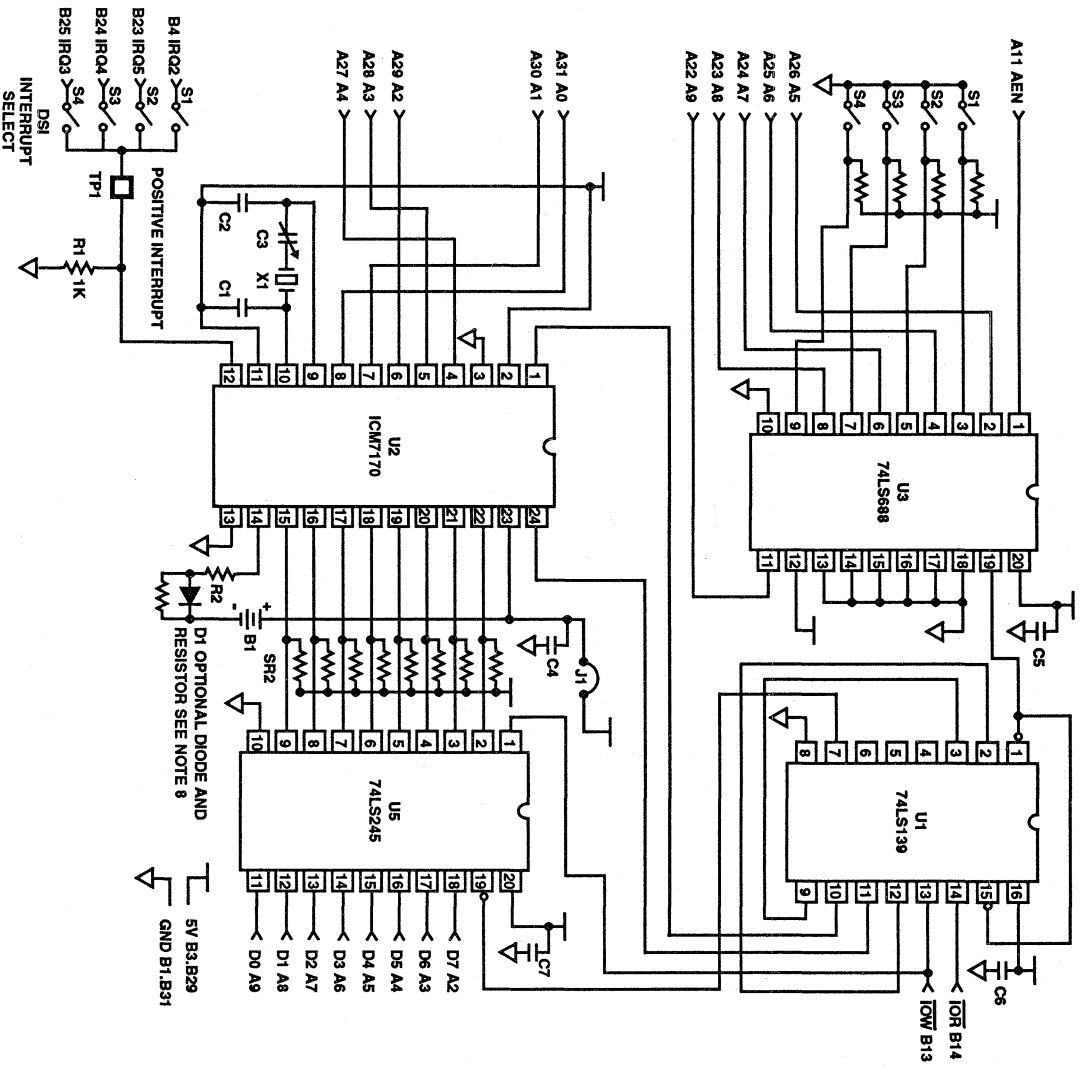

FIGURE 8. IBM PC INTERFACE FOR ICM7170
Figure 8 shows the schematic of a board that has been designed to plug into an IBM PC/XT (Note 1.) or compatible computer. In this example \overline{CS} is permanently tied low and access to the chip is controlled by the \overline{RD} and \overline{WR} pins. These signals are generated by U1, which gates the IBMs IOR and IOW with a device select signal from U3, which is functioning as an I/O block address decoder. DS1 selects the interrupt priority.
- 8. V_{BACKUP} DIODE** - Lithium batteries may explode if charged or if discharged at too high a rate. These conditions could occur if the battery was installed backwards or in the case of a gross component failure. A 1N914-type diode placed in series with the battery as shown in Figure 8 will prevent this from occurring. A resistor of 2M Ω or so should parallel the diode to keep the V_{BACKUP} terminal from drifting toward the V_{SS} terminal and shutting off ICM7170 I/O during normal operation.